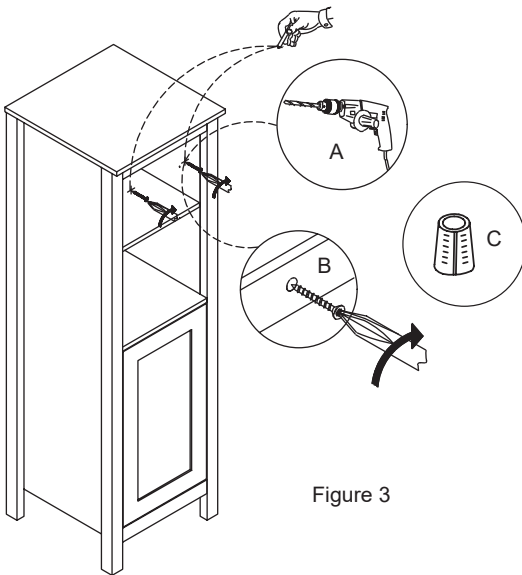

Figure 3
- 4: Secure the linen cabinet to the wall by inserting (x 2) #8 x 2 in. screws (B - not included) through the back rail of the linen cabinet. Figure 3.